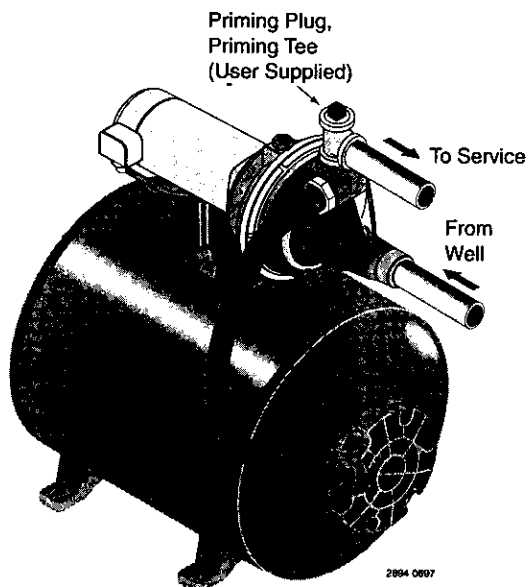

Figure 1
When using a foot valve, a priming tee and plug as shown in Figure 1, are recommended.
**NOTICE:** To properly prime the pump, install a pipe tee in the discharge piping (see Figure 1, Page 4).
1. Remove priming plug (Purchase separately; Figure 1, Page 4).